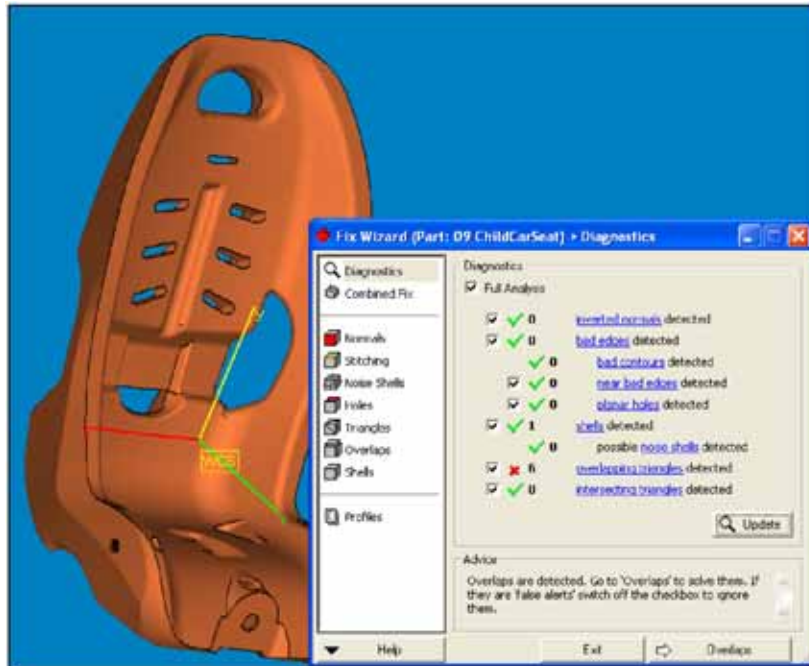

Figure 80: Model to fix - 09 ChildCarSeat.stl
- The model for this exercise is shown Figure 80.